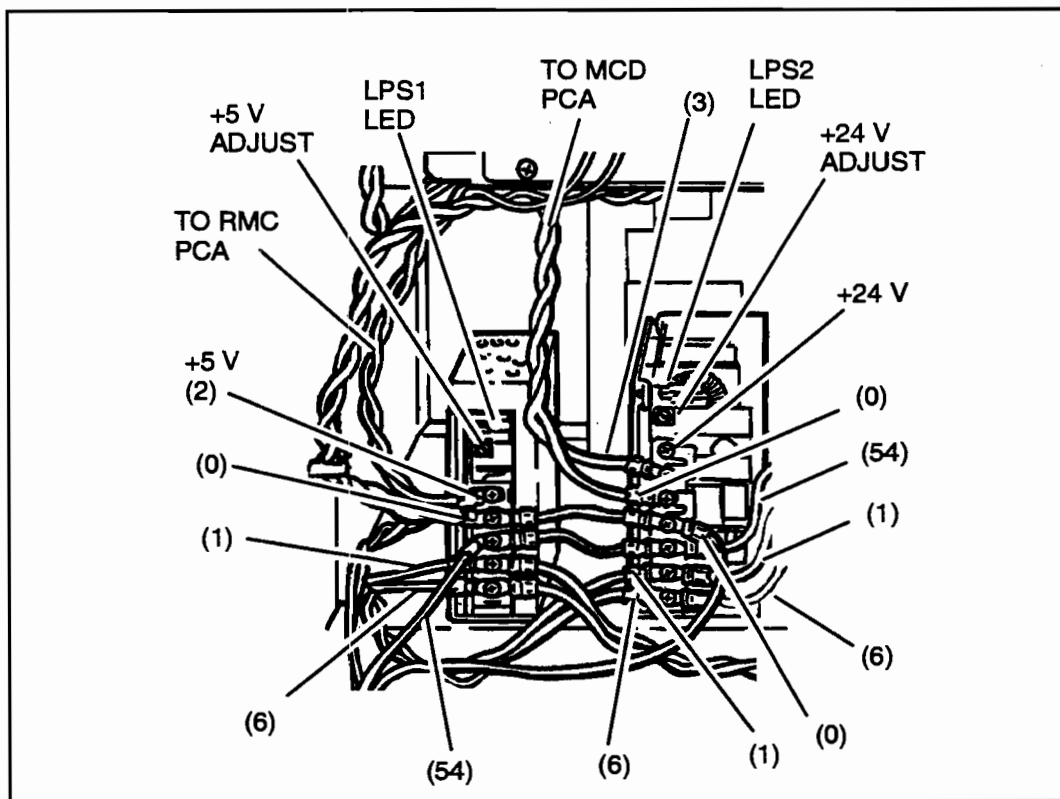

Figure 8-21. Low Voltage Power Supplies
8-96. The plotter power supply consists of three units; LPS1 (+5 V), LPS2 (+24 V), (See Figure 8-21.), and HPS1, the high voltage power supply. LPS1 is used for logic, LPS2 for mechanical drive, and HPS1 is used to drive the control and pin electrodes on the writing head.
3. Using the voltmeter, measure the +5 V at LPS1. See Figure 8-21. If not within specifications, replace the LPS1.
See Figure 8-21.
2. Check the power supply jumpers for proper location. See Figure 8-21.